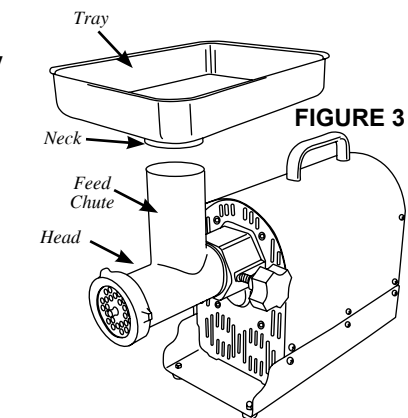

FIGURE 3
7. Insert the neck of the **Tray** into the **Feed Chute** (Figure 3).